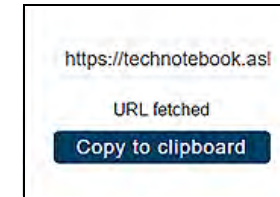

Figure 15-14
1. Select the **Menu** icon (*Figure 15-14*) from the upper toolbar.
3. Select **Copy to Clipboard** (*Figure 15-14*) from the pop-up window.